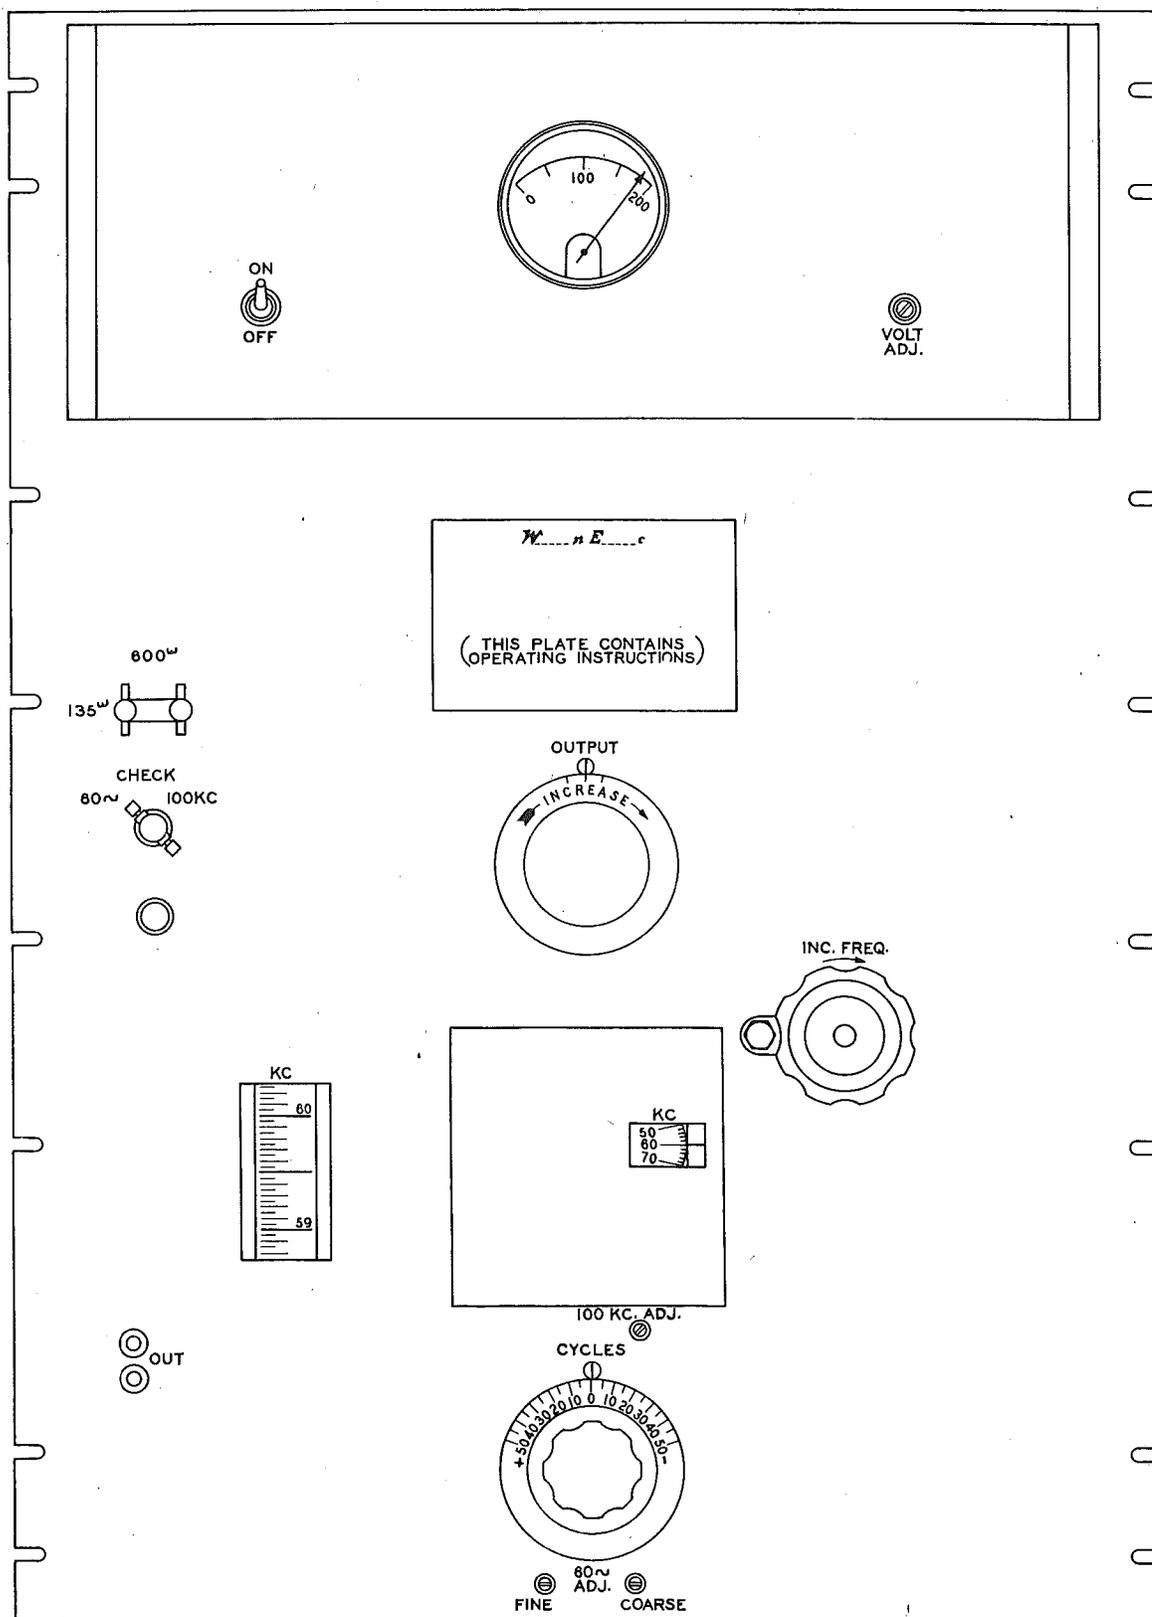

Fig. 2 - Principal Features.
2.04 The apparatus is, in general, arranged on the panel in accordance with the circuit functions, the controls appearing on the face of the panel. The upper portion of the panel comprises the power supply equipment, the middle portion the modulator-amplifier, and the lower portion the variable oscillator and fixed oscillator. The controls associated with the operation of the oscillator consequently appear in the same arrangement on the front of the panel. The principal features are shown in Fig. 2.